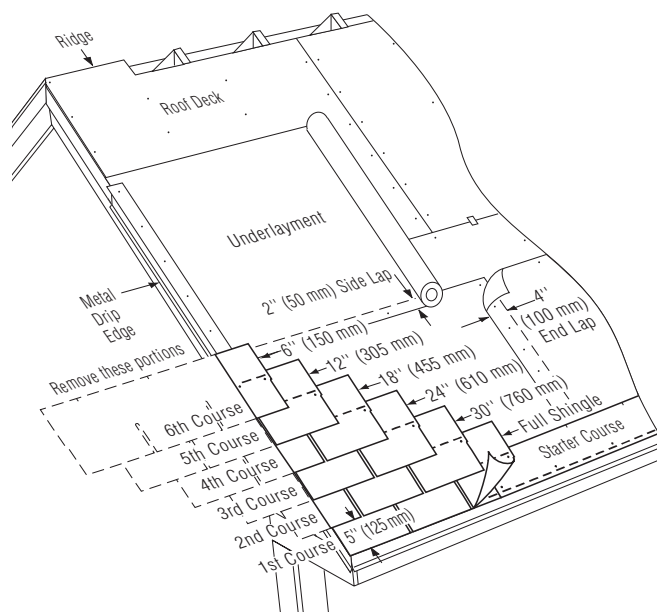

Figure 10-8: Applying the first 6 courses on a standard slope.
1ST COURSE: Apply a full shingle at the lower left corner of the roof. Make tabs lie flush with the edges of the starter course. In this way, sealant on the starter strip will adhere to the first-course tabs and help keep them from lifting in high winds (Figure 10-8).
1. Cut 6" off the left side of a shingle and install this 30" piece over and above the first-course shingle, in line with the left edge of the starter course. Leave the 5" tabs of the first-course shingle exposed (Figure 10-8).
2. Cut 12" off the first shingle of the third course, 18" off the first shingle of the fourth course, 24" off the first shingle on the fifth course, and 30" off the first shingle of the sixth course. Apply each with its left edge in line with the previous course (Figure 10-8).